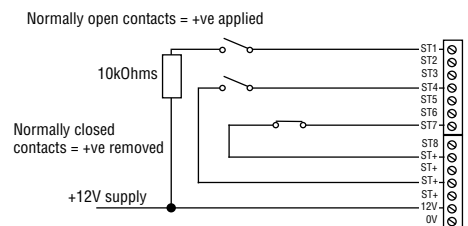

Figure 5. Example Input Connections
- Connect the triggering signals to the terminals marked ST1 to ST8 (ST4 on the 8440). Figure 5 shows examples of how to wire the inputs for the 8400 and 8440.